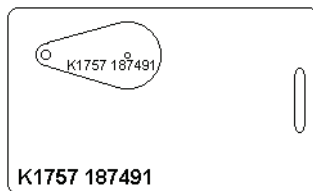

Figure 10-24: Proximity Card/Key Tag Number
6. Locate the Keri/Wiegand Card Number Range field. Click in the **Starting From** field. Enter the card number for the first card in the range of cards to be enrolled (the lowest number). The card number is the second set of digits printed on the body of the card (in Figure 10-24, it is the digits corresponding to 187491). The card number will be more than 4 digits long. For example, the entire number of the first card is K1757 187491; the card number is **187491**, 6 digits long.